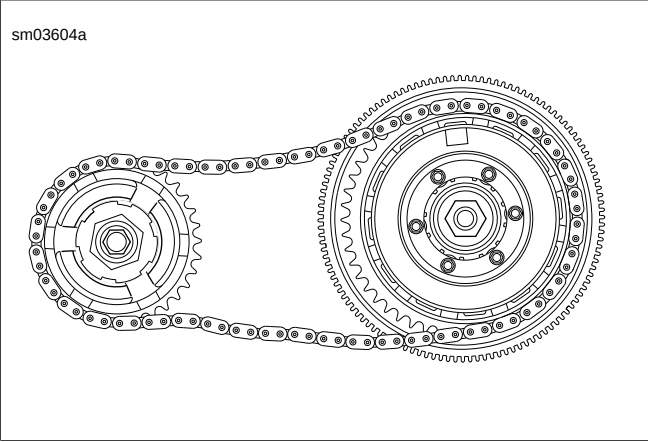

Figure 5-10. Remove Drive Components
15. See Figure 5-10. Remove clutch assembly, primary chain and compensating sprocket assembly as a single assembly.